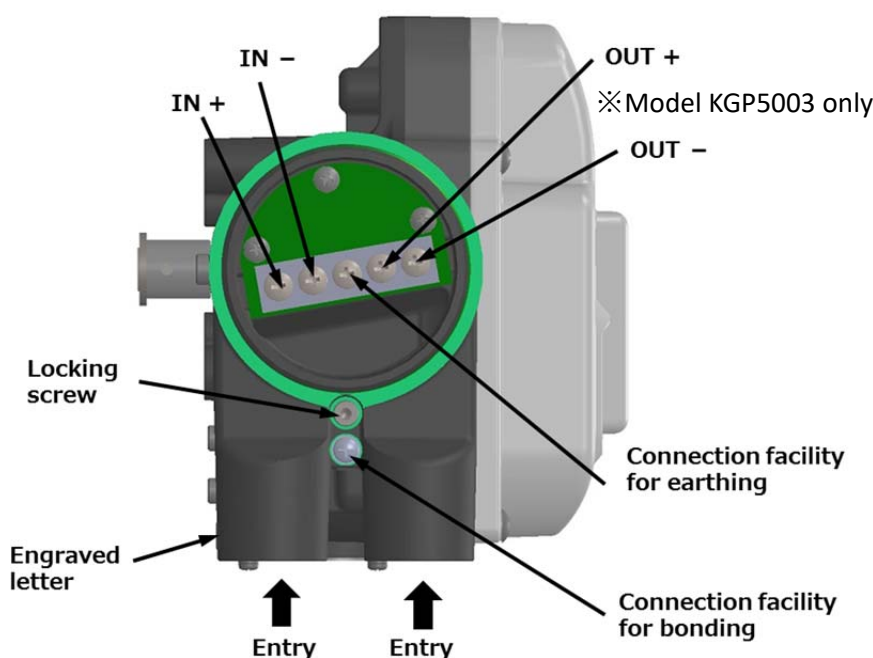

Figure 2.6a Entries and Connection facilities
The figure2.6a below shows the layout of the entries for electrical connections and terminals.
5. As illustrated in figure 2.6a, two connection facilities for earthing and bonding conductors are available. The two connection facilities are equipotential. Make wiring connections according to local electrical codes which apply to the application.